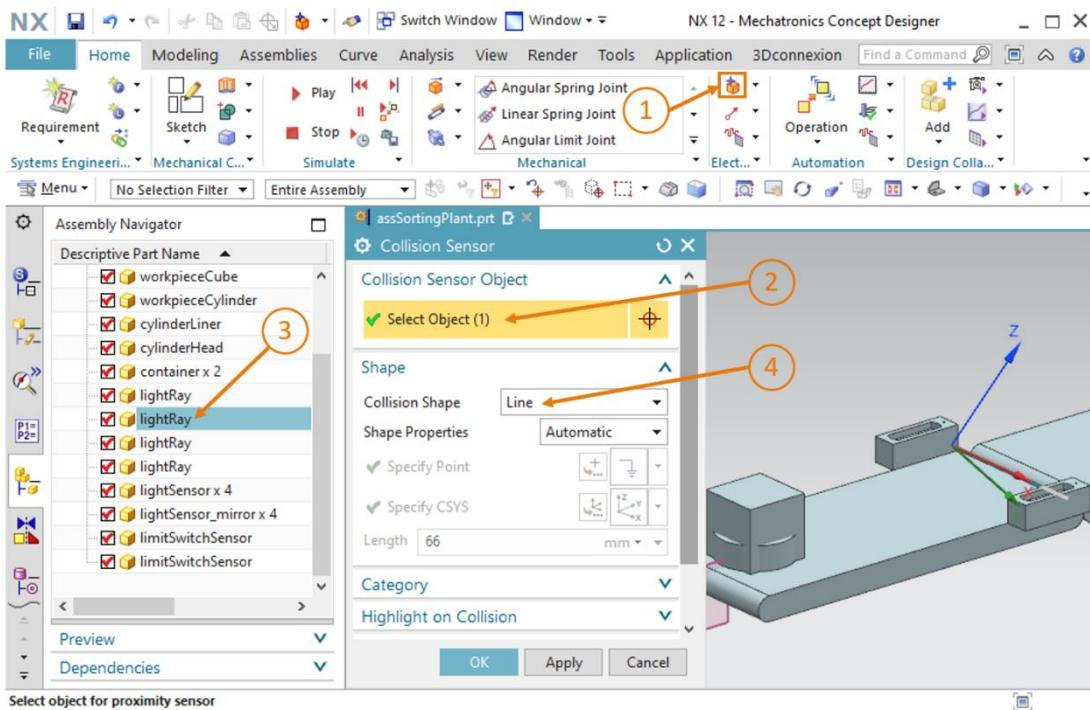

Figure 49: Creating the collision sensor for counting all workpieces – Selection of the collision object and collision shape
- Find the "Collision Sensor" command in the "Electrical" menu group or via the Command Finder (see Figure 49, step 1). Click on the corresponding icon opens the "Collision Sensor" command window. Open the "Collision Sensor Object" group and click the "Select Object" button (see Figure 49, step 2). In the Assembly Navigator, select **the light sensor at the end of the first conveyor belt "conveyorShort"** (see Figure 49, Step 3). Specify "Line" as the collision shape in the "Shape" group.